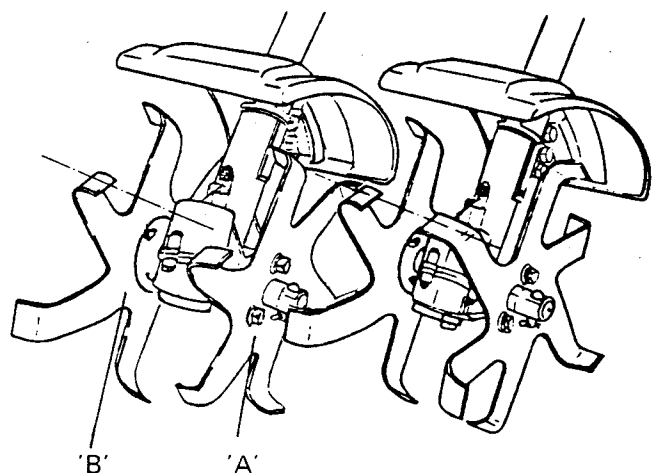

Figure 4
The both blades 'A' and 'B' have been mounted at factory before delivery for regular cultivation as shown in left of figure 4. For deeper cultivation, just reposition blade 'A' as follows.
**NOTE:** Position blade 'A' so that tines of both blades face together or are mutually back-to-back. (Right of figure 4)